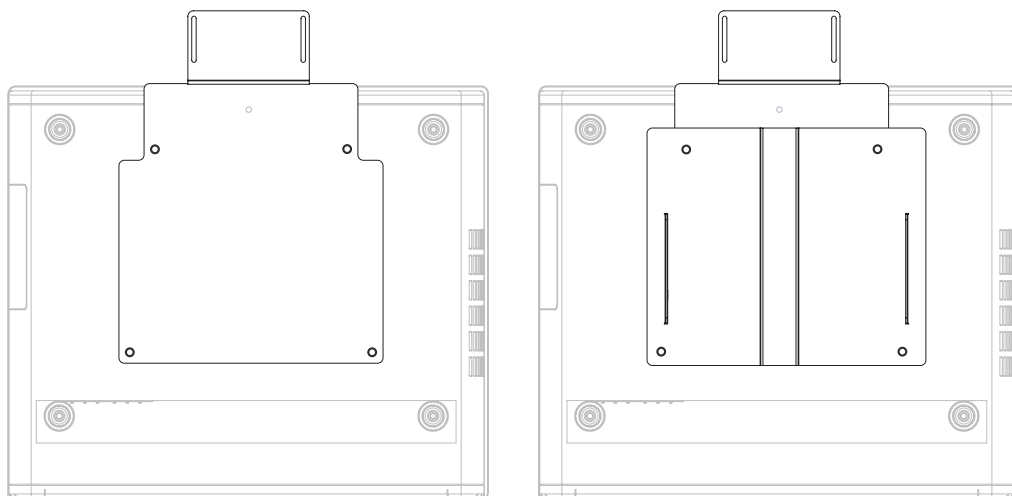

Figure 3-8. Vision 50/CineWide with Anamorphic Lens Base Plate and Ceiling Mounting Plate - Bottom View
4. Secure the CineWide base plate (and ceiling mounting plate, if needed) to the projector with the four, M6x16mm screws and washers provided with the CineWide lens base plate. See Figure 3-8.